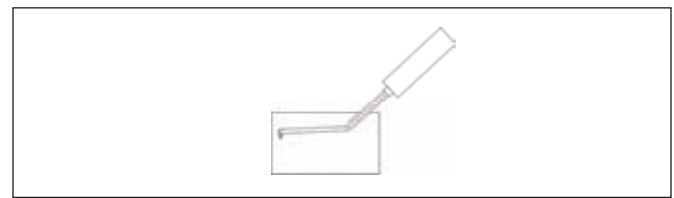

FIGURE 7-1
7.2.4. When starting a new cartridge, always run a bead (two to three inches in length) on scrap cardboard until the adhesive comes out of the mixer thoroughly blended. This can be determined by consistent color throughout the bead. (See FIGURE 7-1.)